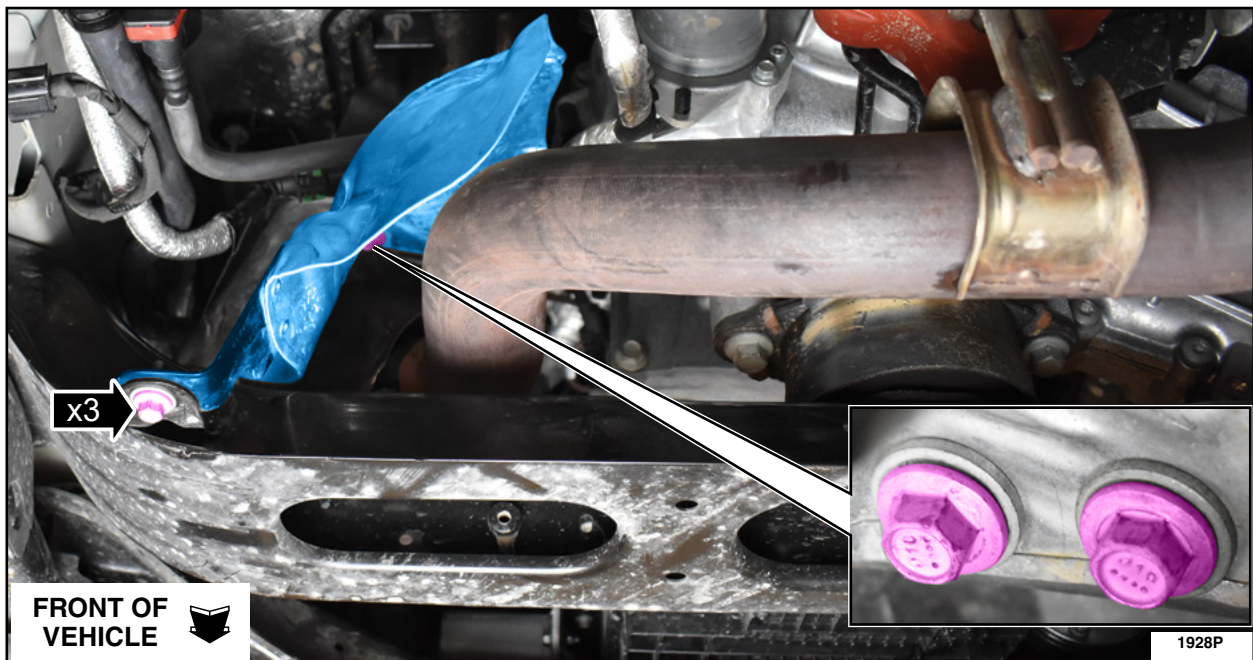

FIGURE 21
22. Install the heat shield and retainers. See Figure 21.